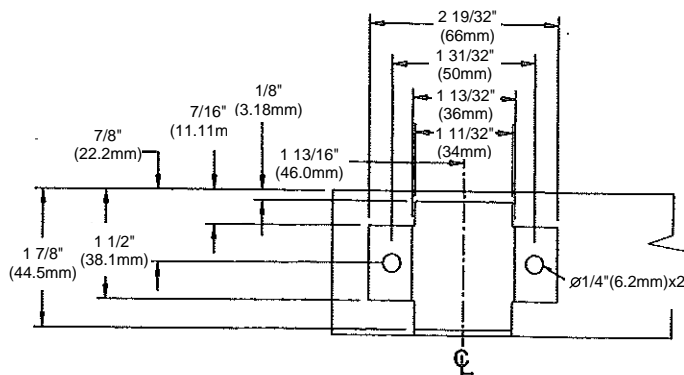

Figure 8-1
- 1-1 Cut out a square hole on the frame for top strike as per Figure 8-1.